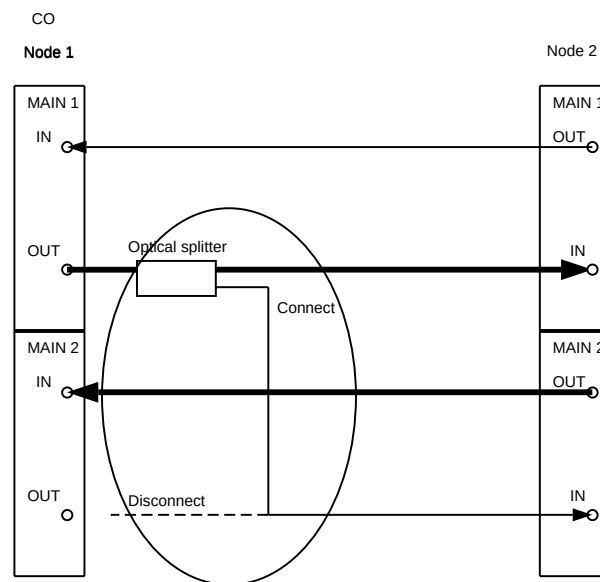

Figure 5. DDM-2000 OC-3 Drop or Add/Drop Network to Ring Upgrade
15. At Node 1, remove optical fiber from **OLIU MAIN 2(P) OUT** and connect it to the other output of the optical splitter. (See Figure 5.)